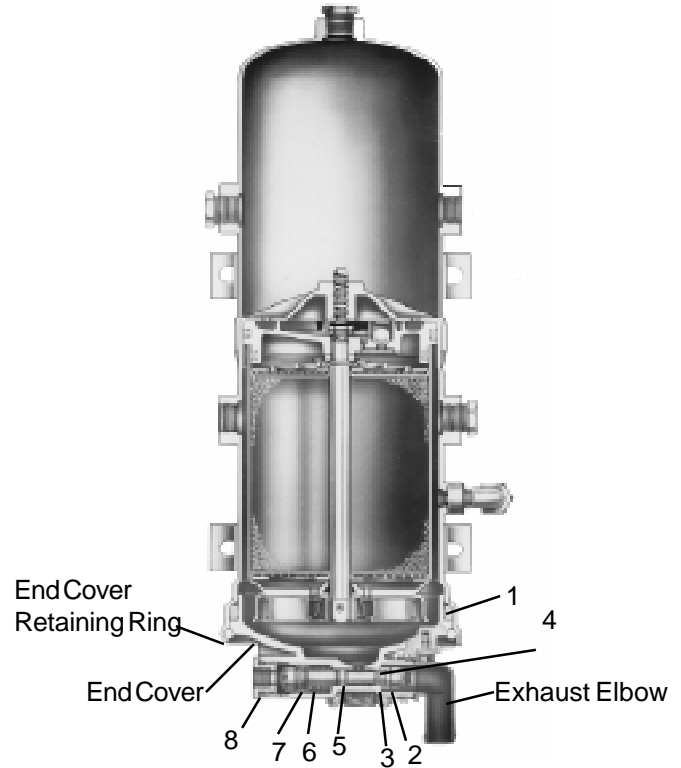

Figure 1 This kit consists of the parts listed above.
**Note:** The above list of parts is keyed to the numbers on Figure 1, so location of parts can be determined.